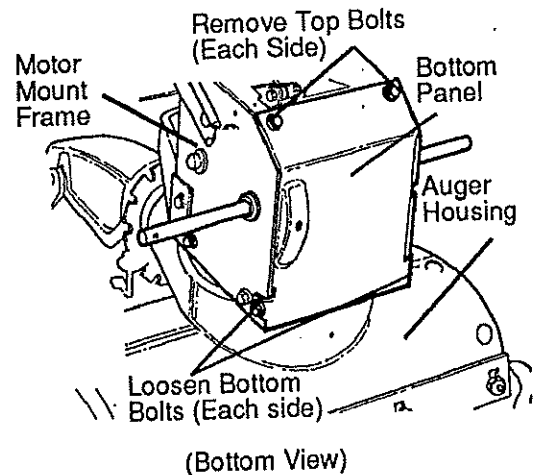

FIG. 7-SERV & ADJ
- Remove top two bolts securing auger housing to motor mount frame. Loosen bottom two bolts (See FIG. 7-SERV & ADJ).
- Remove the bottom panel (**See FIG. 7-SERV&ADJ**).
- Position the shifter lever in first (1) gear.
- Remove the bottom panel (See FIG. 7-SERV & ADJ).